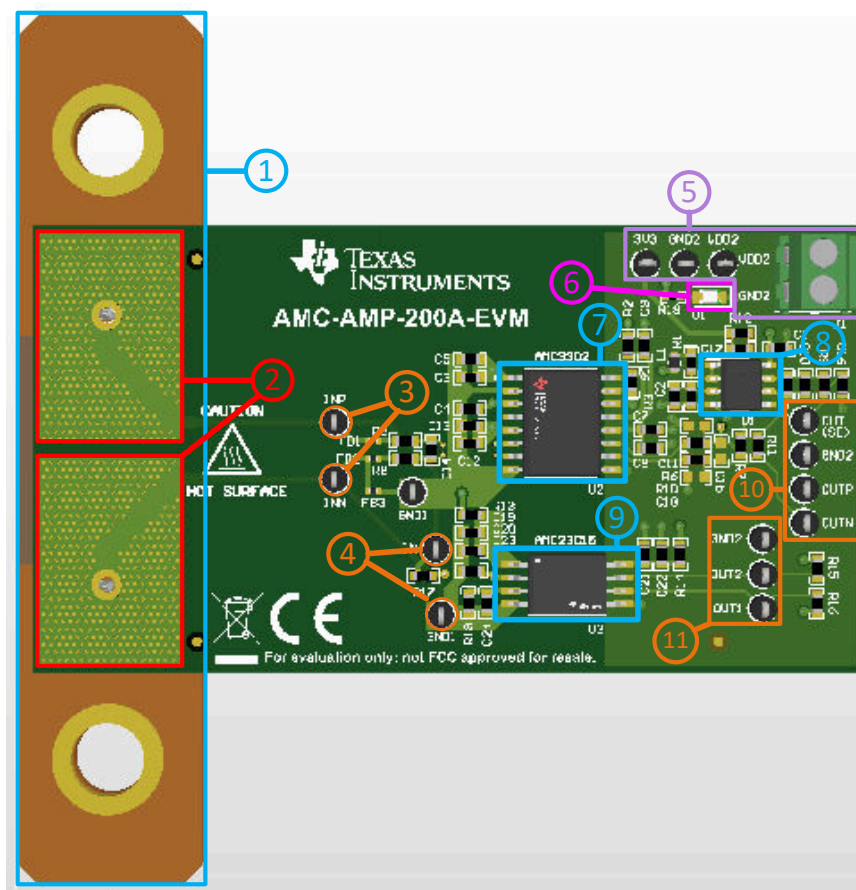
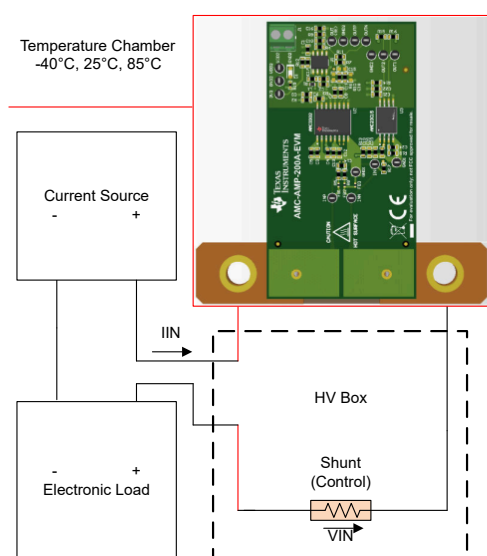
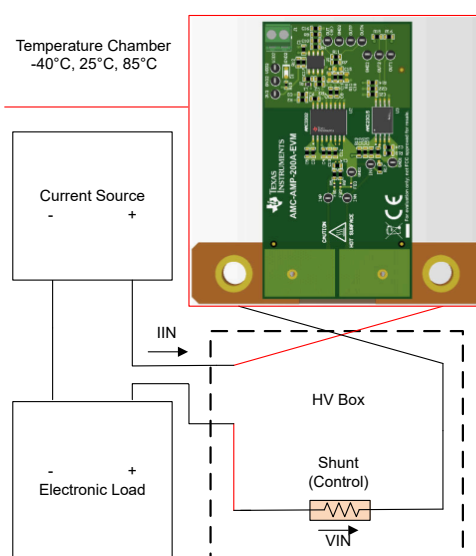

Figure 2-1. AMC-AMP-200A-EVM Hardware Labels
Figure 3-1. Positive Current Equipment Setup
Figure 3-2. Negative Current Equipment Setup
2. Connect DMMs to the following test points. Refer to Figure 3-1, Figure 3-2, and Figure 2-1 for test procedure setup and connection mapping.
- d. AMC3302 single-ended output, OUT(SE) and GND: V_{OUT_SE}